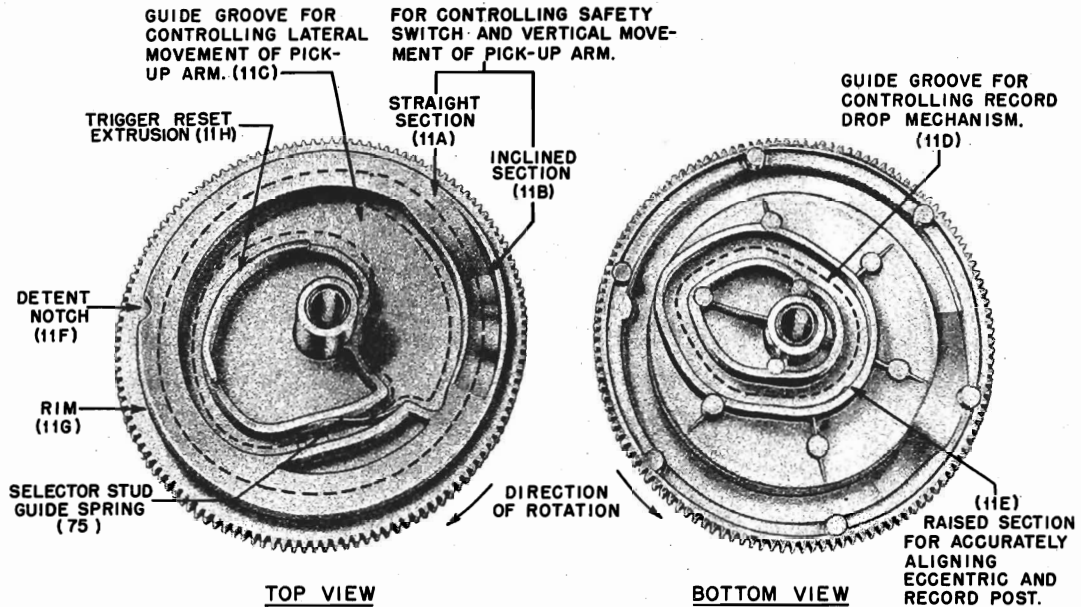

FIGURE 2. CAM WHEEL
NOTE: Numbers in parenthesis () refer to parts shown in Figures 2, 3, 4, 5 & 6.
The heart of the record changer is the cam wheel (11). On it are cast all the cams, extrusions, etc., required to perform all the operations during the changing cycle. See Figure 2.